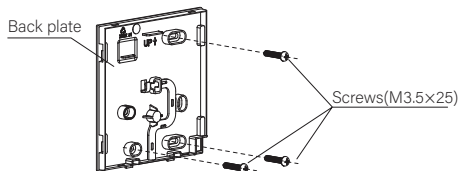

Fig 3-3
- Refer to **Fig. 3-3** for proper screw placement.